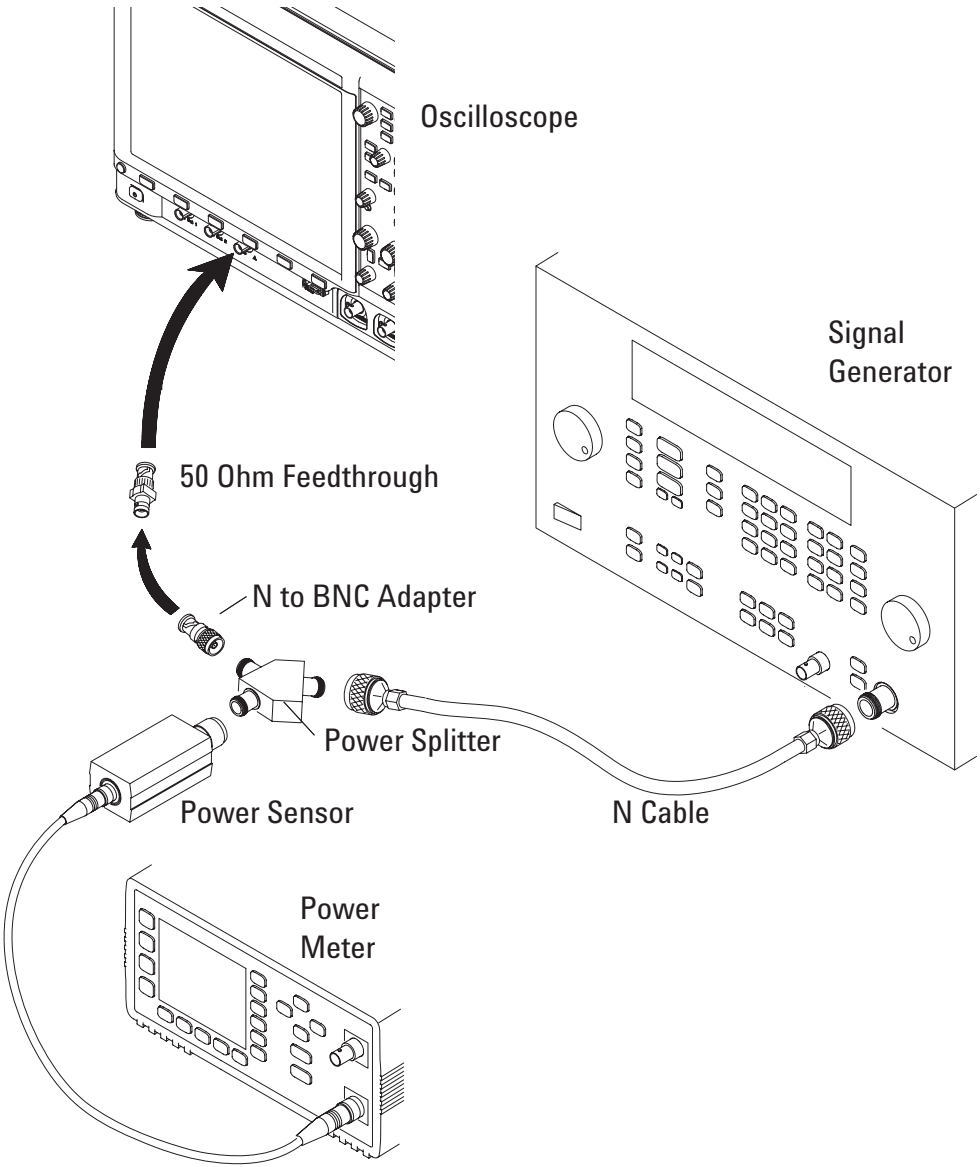

Figure 9 Setting Up Equipment for 4-Channel External Trigger Sensitivity Test
- 1 Connect the equipment (see Figure 9).